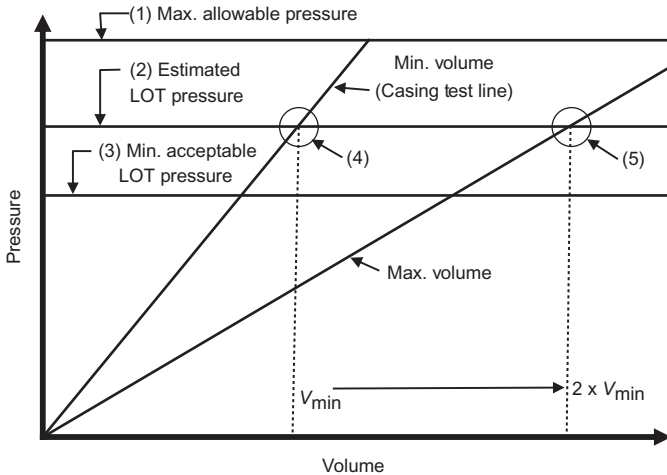

Figure 3.3 Leak-off test graph.
- (3) Minimum acceptable leak-off test pressure in psi
- (4) V_{min} determined from intersection of minimum volume line from casing test with estimated LOT line
- (5) Draw maximum volume line from zero through the intersection of $2 \times V_{min}$ with the estimated LOT line (Figure 3.3).